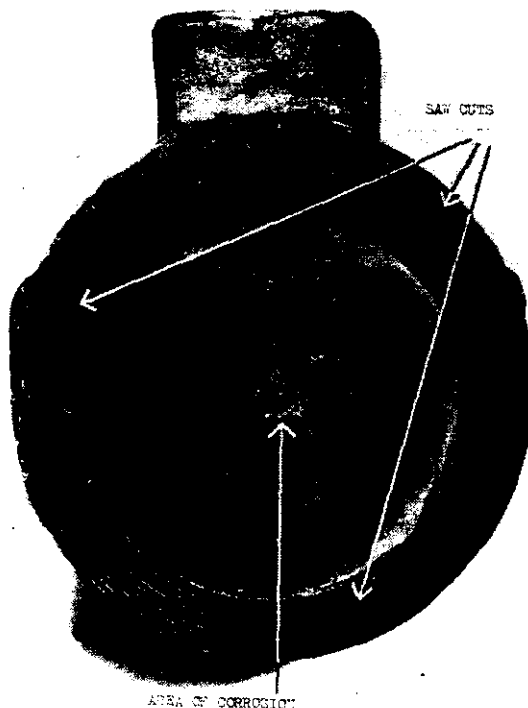

FIG. 2
- (b) By making a series of saw cuts across the seat as shown in FIG. 2.